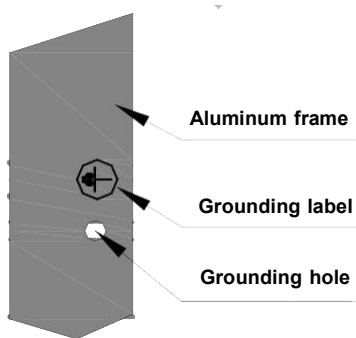
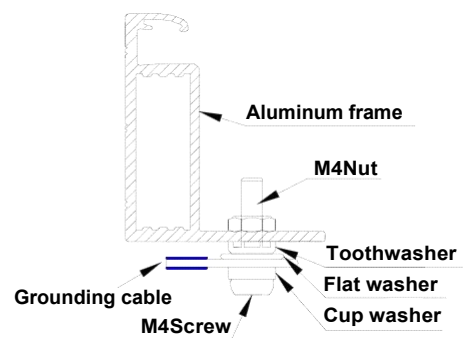

Figure 5 Grounding hole and ground label
Figure6 Grounding method
7.5.1 Modules use an anodized aluminum alloy frame as a rigid support, in order to avoid modules by lightning and electrostatic damage, as well as the protection of personal safety, all module frames and mounting racks, must be grounded. If there is no special provision, please follow the International Electrotechnical Commission standards or other international standards. Use the recommended connection terminals to connect the grounding cable to the module frame. Use 12AWG copper wire for the grounding wire. As shown in Figure 5 on the module ground hole and its label, Figure 6 shows the module grounding method.